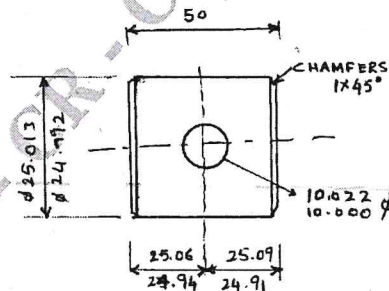

Fig.Q.5(b)
- For the Pin component shown in Fig.Q.5(b), obtain the manufacturing sequence and manufacturing limits. (10 Marks)